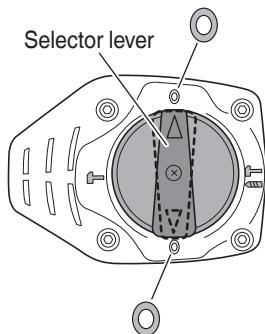

Fig. 9
(2) When fixing working positions of tools such as cold chisel, etc.,
- Align ▲ of the selector lever and ○ of the crank cover as illustrated in Fig. 9.